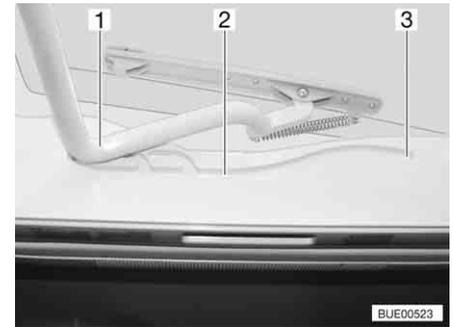

Fig. 62 Heki skylight, guide
- Pull the bar (Fig. 62,1) in the guides (Fig. 62,2) to the rearmost position (Fig. 62,3).
- Use both hands to push the bar (Fig. 62,1) slightly upwards.
- Pull the bar in the guides (Fig. 62,2) to the desired position.